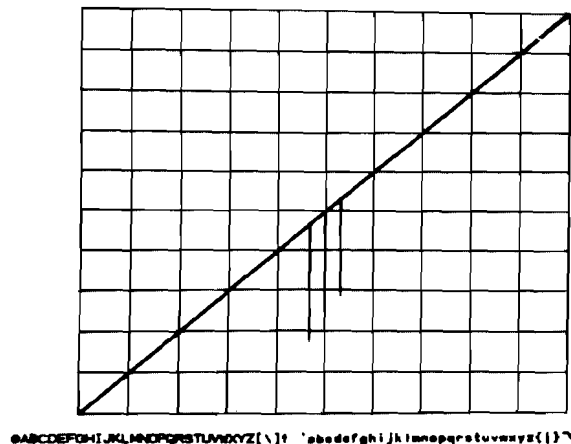

Figure 8-37. Digital Storage Test Pattern
2. **DIGITAL STORAGE TEST PATTERN:** The test pattern shown in Figure 8-37 can be used to verify the existence of a failure. This pattern can be generated independently of the main processor in the RF Section (A15 Processor). To enable the test pattern: